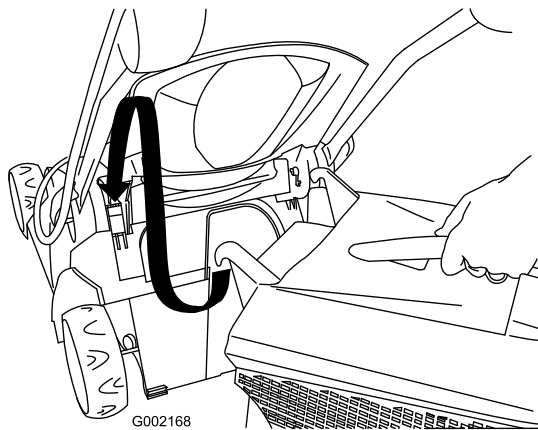

Figure 20
1. Lift up the rear door and install the grass box on the mower (Figure 20).